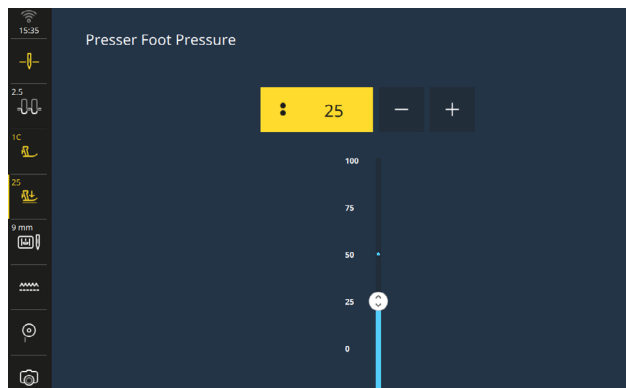

Fig. 15
2. Tap the Presser Foot Pressure icon in Status Bar and decrease the value to 25 (Fig. 15). Sew to test the fabric feed.